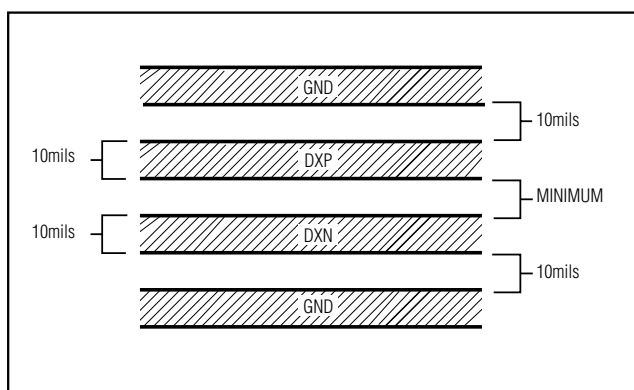

Figure 2. Recommended DXP-DXN PC Trace
- 3) Route the DXP and DXN traces in parallel and in close proximity to each other, away from any higher voltage traces, such as 12VDC. Leakage currents from PC board contamination must be dealt with carefully since a 20M $\Omega$  leakage path from DXP to ground causes about a 1°C error. If high-voltage traces are unavoidable, connect guard traces to GND on either side of the DXP-DXN traces (Figure 2).
- 6) The 10mil widths and spacings that are recommended in Figure 2 are not absolutely necessary, as they offer only a minor improvement in leakage and noise over narrow traces. Use wider traces when practical.